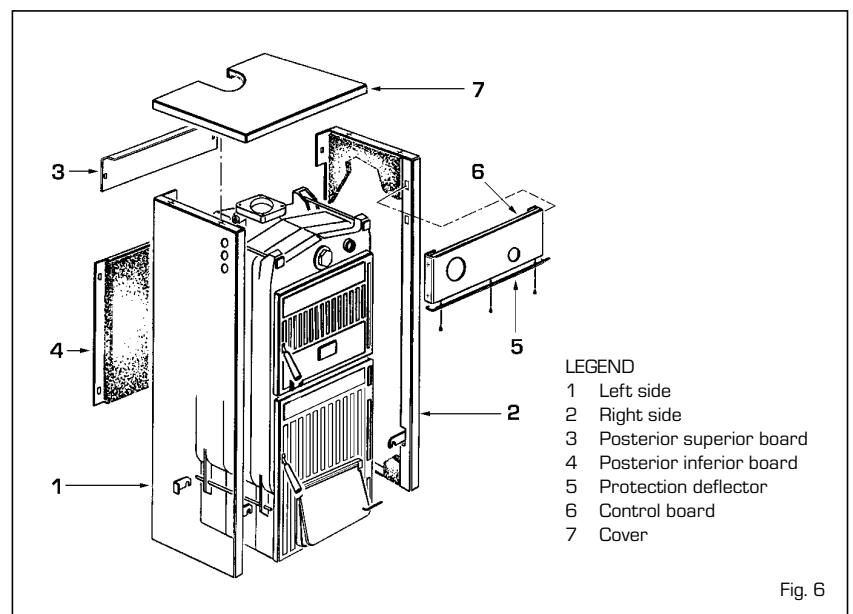

Fig. 6
Two nuts one to fix the clamp holders for the lateral sides are screwed on the inferior tie rods, both from the front side and from the rear side of the boiler. The assembly of the casing components has to be carried out in the following way (fig. 6):
**In order to fix the lever with the chainlet in the regulator holder it is necessary to remove the deflector in aluminum, which is assembled on the control board, by unscrewing the three screws that fix it. (fig. 6)**